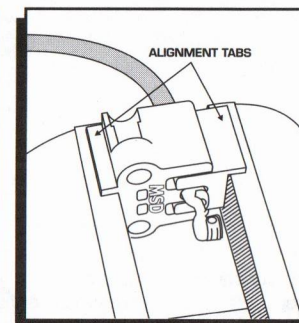

Figure 7
5. Put the assembly into a vise making sure the alignment tabs are on the outside edge of the vise jaws (Figure 7).